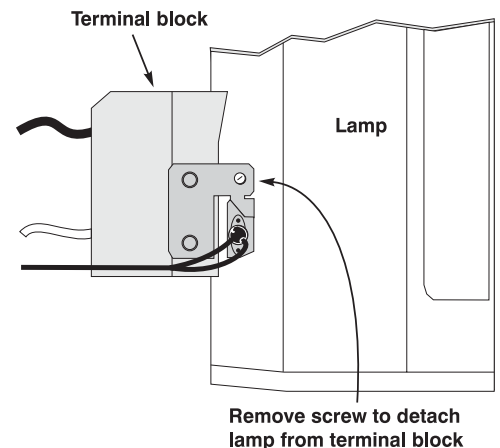

Figure 4.5. Detach lamp from terminal block (TOP VIEW)
- Remove the single screw securing the lamp module to the terminal block. See Figure 4.5 (top view). The lamp should now be fully free—refer to the recycling/disposal instructions provided with the new lamp.